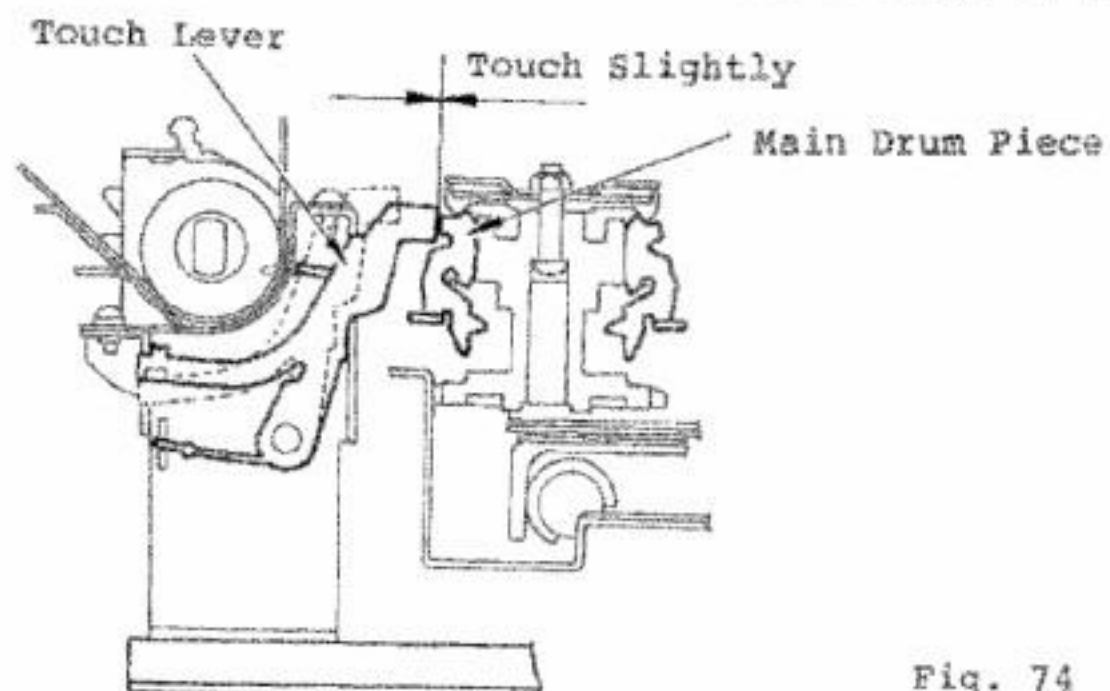

Fig. 74
2. As shown in Fig. 74, move the Carriage so that the Main Drum is aligned with a Touch Lever. Move the Pattern Unit towards the Main Drum so that the clearance between the Main Drum Piece and the Touch Levers will fall within a range of 0.2mm.